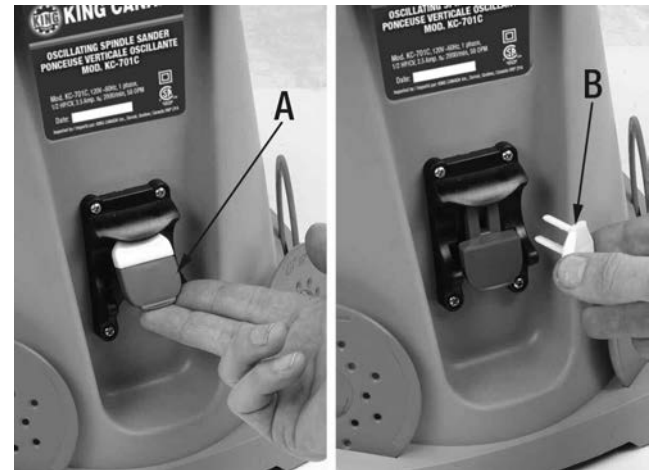

FIGURE 7
This Spindle Sander comes with an On/Off switch (A) Fig.7 which starts and stops the machine. To turn the Spindle Sander on, lift the switch upwards as shown. To stop the Spindle Sander, simply push on the switch.
The On/Off switch comes with a removable safety key (B) Fig.7. When the safety key is removed from the switch and placed in a safe location, unauthorized persons or children can't turn the switch to the On position. It is recommended to always remove the safety key from the switch whenever the Spindle Sander is not in use.